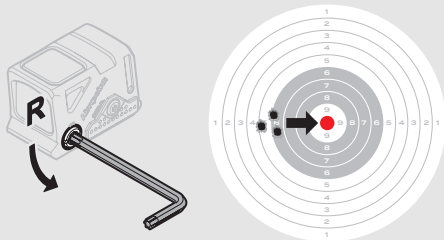
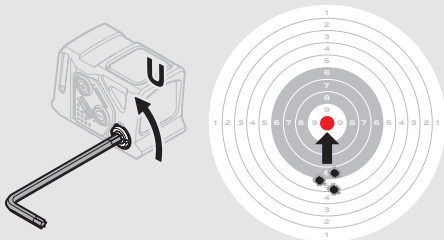

Fig. 4 Windage adjustments
Fig. 5 Elevation adjustments
- d Use the long end of the Torx T10 tool (7) to turn the adjustment screws.
- e Windage adjustments (see Fig. 4):
- Turn windage adjustment screw (3) counterclockwise to move point of impact to the right (R).
- Turn windage screw (3) clockwise to move point of impact to the left.
- f Elevation adjustments (see Fig. 5):
- Turn elevation adjustment screw (2) counterclockwise to move point of impact up (U).
- Turn elevation adjustment screw (2) clockwise to move point of impact down.